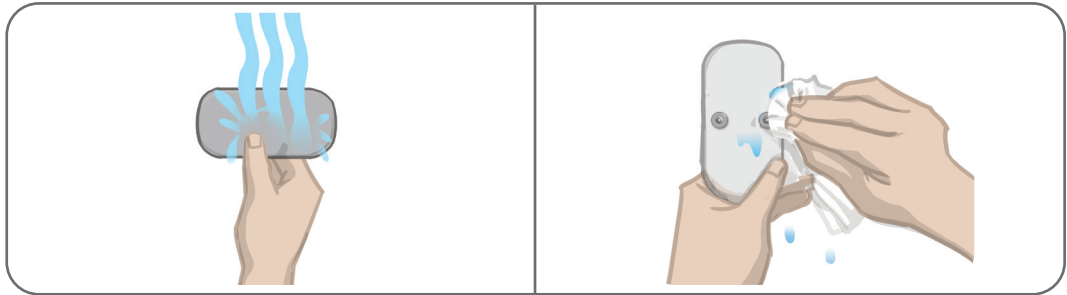

Figure 6-9: Wetting the Electrode and Removing Excess Water
3. Wet the Thigh Cloth Electrodes with water. See Figure 6-9. Gently squeeze the Thigh Cloth Electrodes together.
4. Remove excess water from the snap side of the Thigh Cloth Electrodes with a cloth. See Figure 6-9.